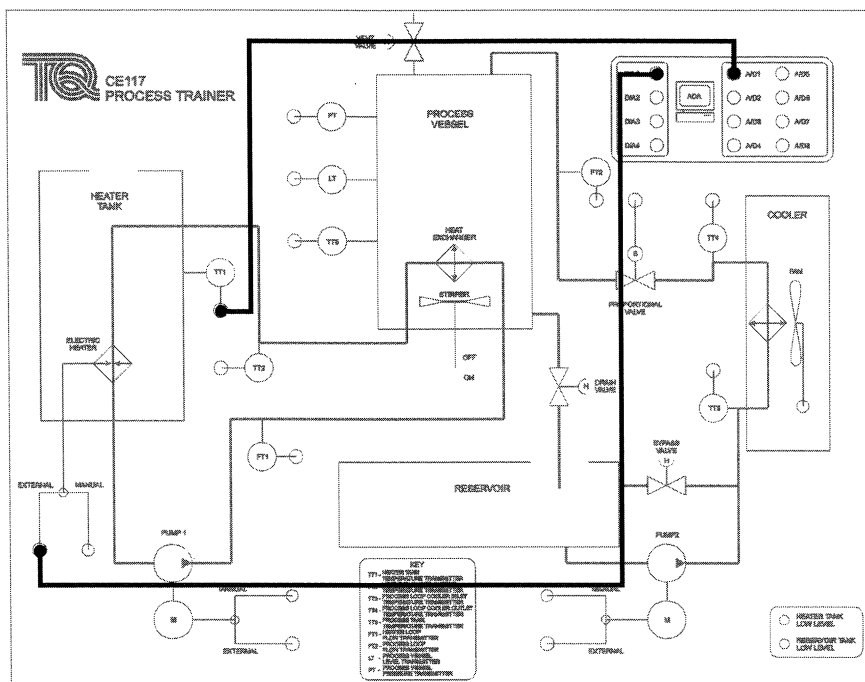

Figure 41 Connections for Experiment 1 Procedure 3.
- 2) Connect the CE117 Mimic Panel as shown in Figure 41. Set the heater switch to 'External'. Analogue signals will pass from the ADA section to the heater and from temperature transmitter TT1. The software will display the temperature rise in the heater tank.